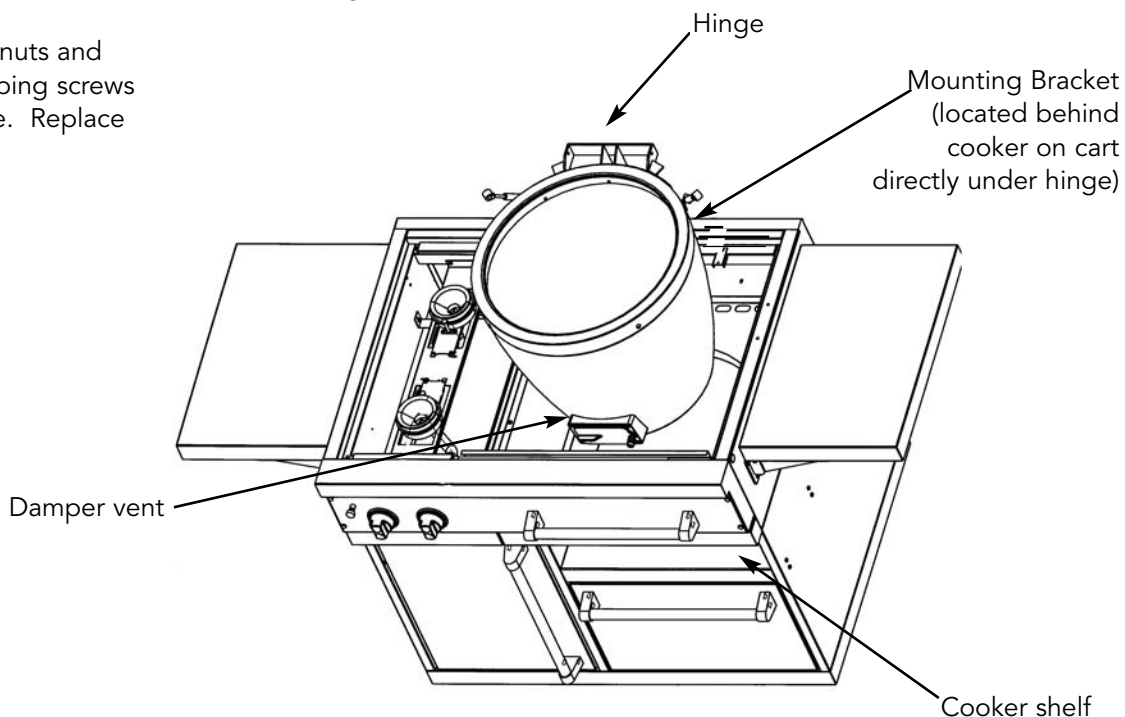

Figure 3
- With a minimum of two people, place the cooker on the cooker shelf located in the cart. Also, make sure the cooker is placed on the mounting bracket located on the cart directly under the hinge. The hinge and the inside damper vent should be used for hand holds. (See Figure 3).